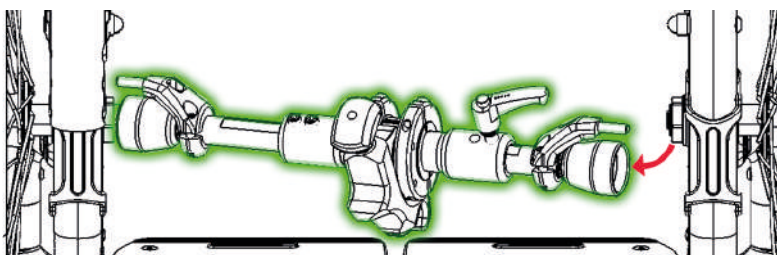

Figure 24
3. Remove the Kit from the wheelchair (Figure 24).